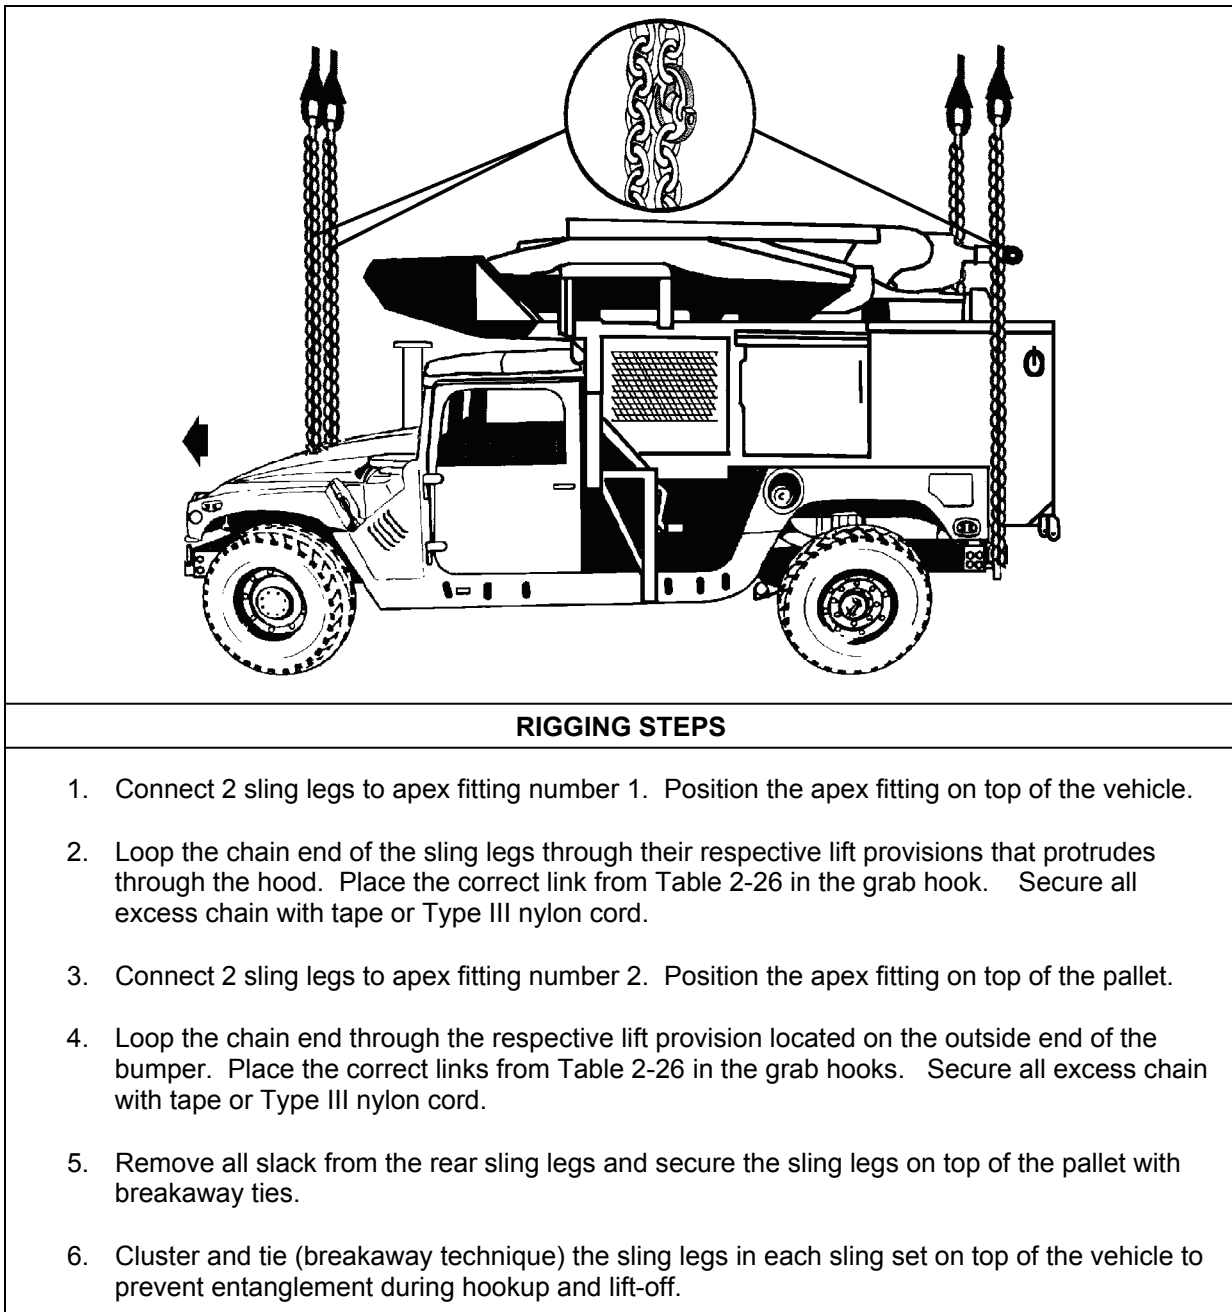

Figure 2-25. Trojan Spirit Lite (V)2 Central Communications, AN/TSQ-226 (V)2 on M1113
- **Rigging.** Rig the load according to the steps in Figure 2-25.